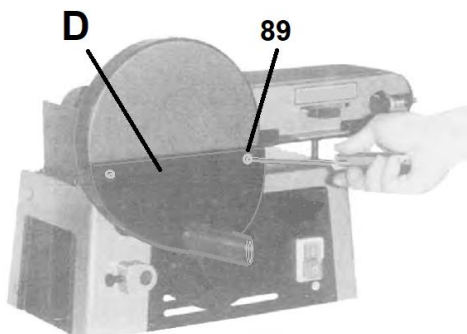

Figure 6-4: Mounting lower sanding disc guard
Attach the lower sanding disc guard (D, Fig. 6-4) with 2 screws (89).
Disconnect the machine from the power source (pull mains plug). Remove the table assembly. Remove the lower disc guard (D, Abb. 6-4). Remove the old sanding disc.